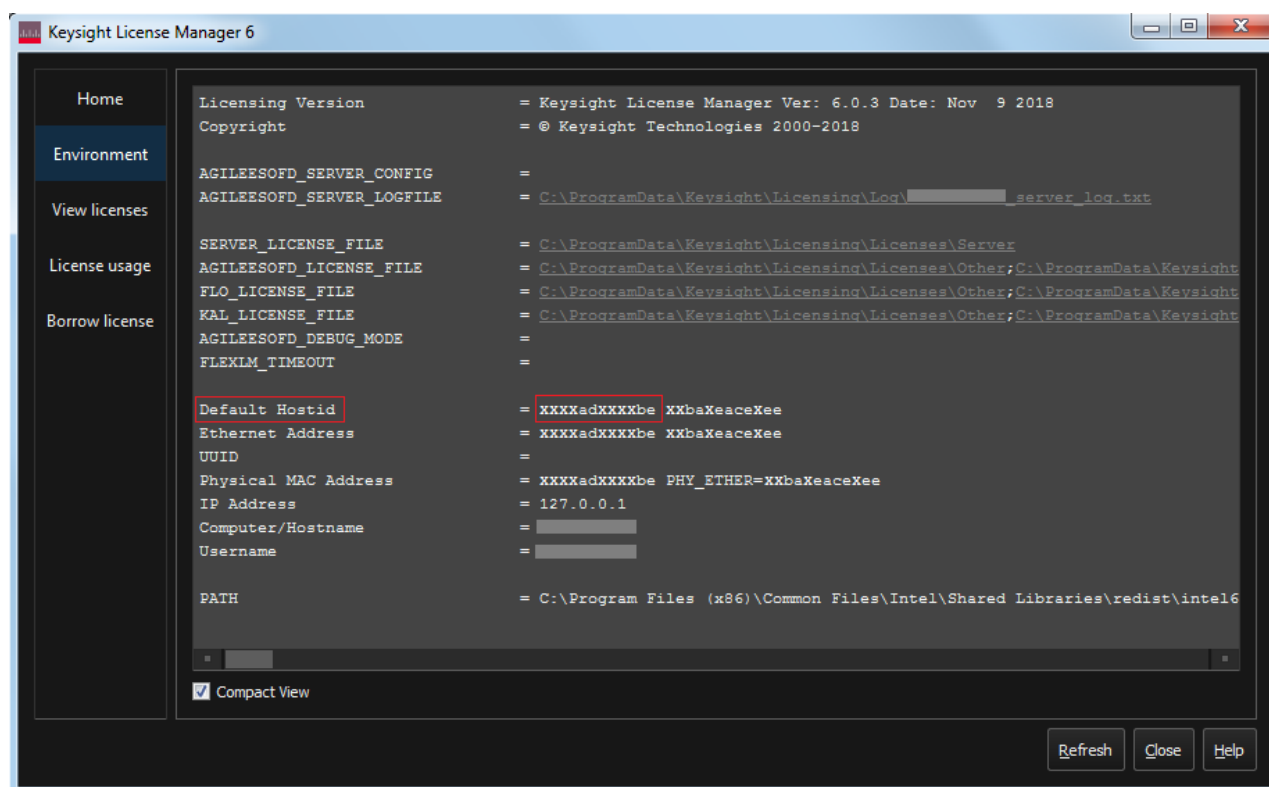

Figure 1-3 Viewing the Host ID information in Keysight License Manager 6
- 2 Copy the Host ID, which is the first set of alphanumeric value (as highlighted in Figure 1-3) that appears in the Environment tab of the application. Note that x indicates numeric values.